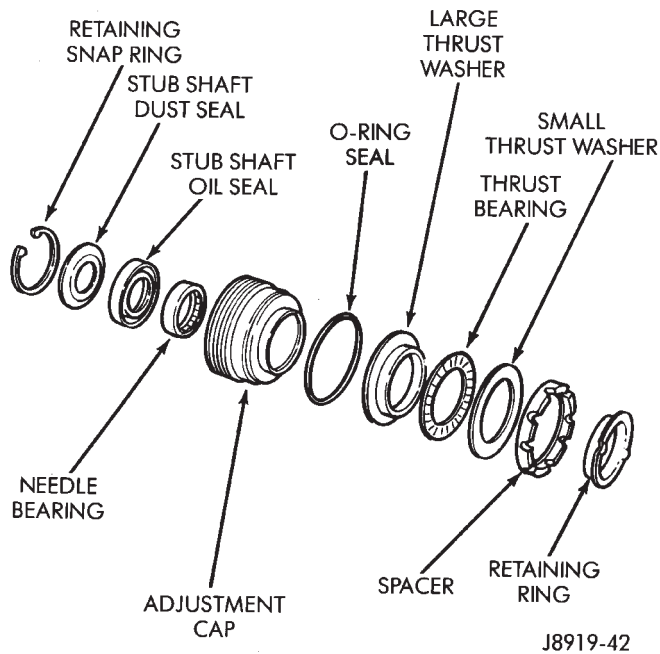

Fig. 20 Adjustment Plug (Cap) Components
(4) Remove bearing spacer, races and thrust bearing (Fig. 20).